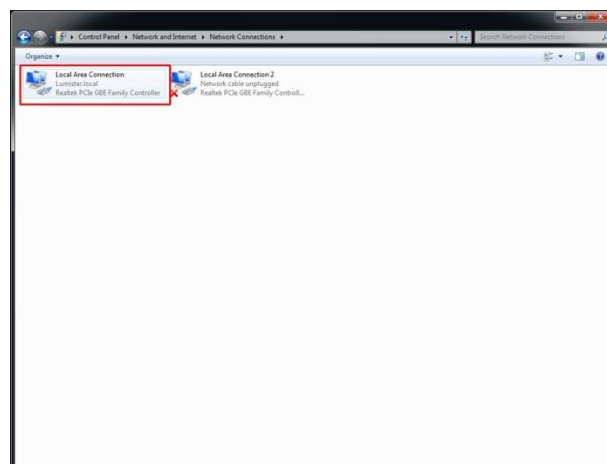

Figure 3-3 Windows Network Connections Page
Step 5: The Network Connections window shows the available connections the target host can use. Right-click on the local area connection attached to the LS-28-DRSM and select "Properties". See Figure 3-3.
Step 5: The Network Connections window shows the available connections the target host can use. Right-click on the local area connection connected to the DHCP enabled network and select "Properties". See figure 3-3.